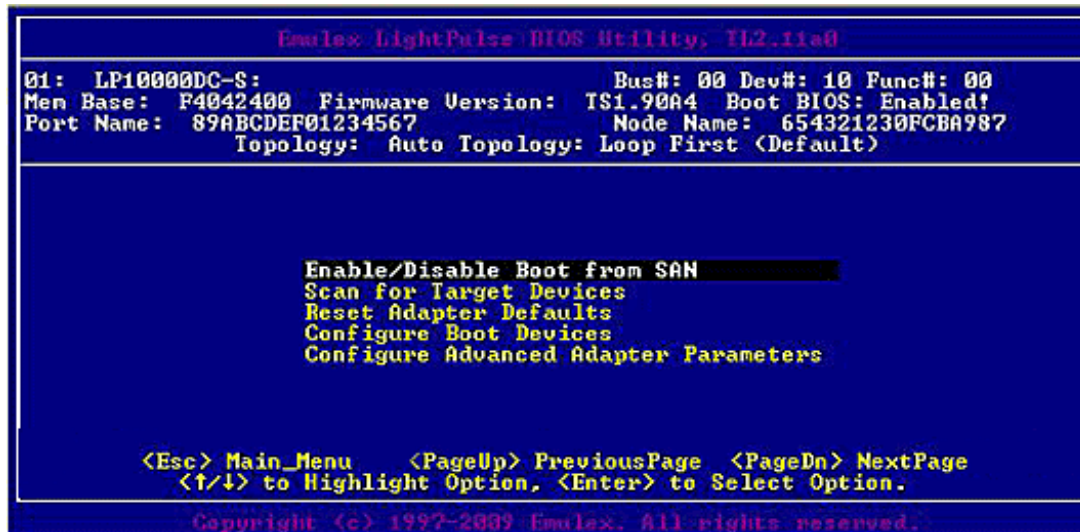
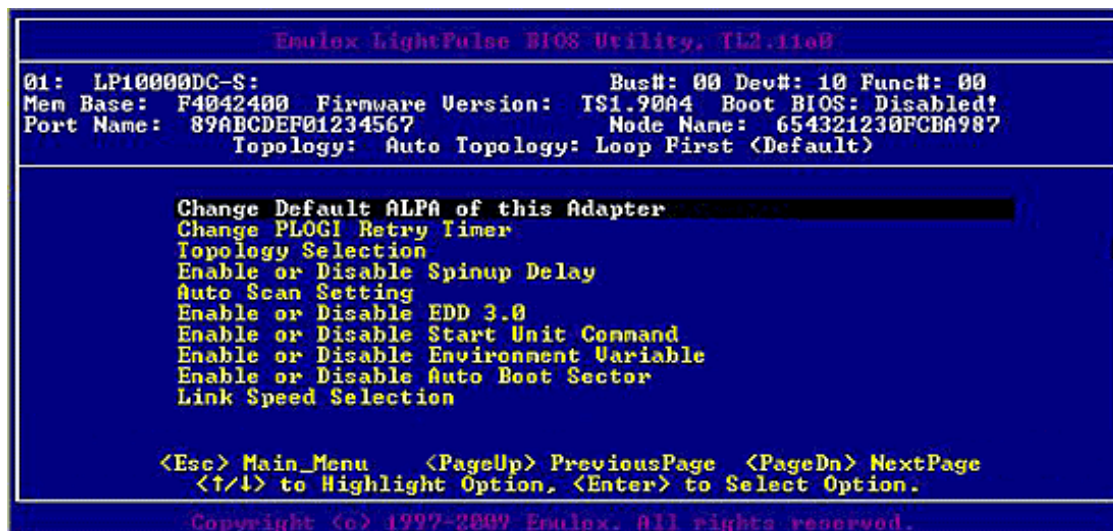

Figure 4-2 Main Configuration Menu
Figure 4-9 Adapter Configuration Menu
2. Select the adapter you want to examine or configure using the arrow keys to move up and down and pressing <Enter>. The main configuration menu is displayed (Figure 4-2).
1. On the main configuration menu (Figure 4-2), select **Configure Boot Devices**.
When the main configuration menu (Figure 4-2) is displayed, select **Configure Advanced Adapter Parameters**. The adapter configuration menu is displayed.
Default settings are acceptable for most installations. To reset all values to their defaults, from the main configuration menu (Figure 4-2) select **Reset Adapter Defaults**.
1. On the main configuration menu (Figure 4-2), select **Configure Advanced Adapter Parameters**. The adapter configuration menu is displayed (Figure 4-9).
1. From the main configuration menu (Figure 4-2), select **Configure Advanced Adapter Parameters**. The adapter configuration menu is displayed (Figure 4-9).